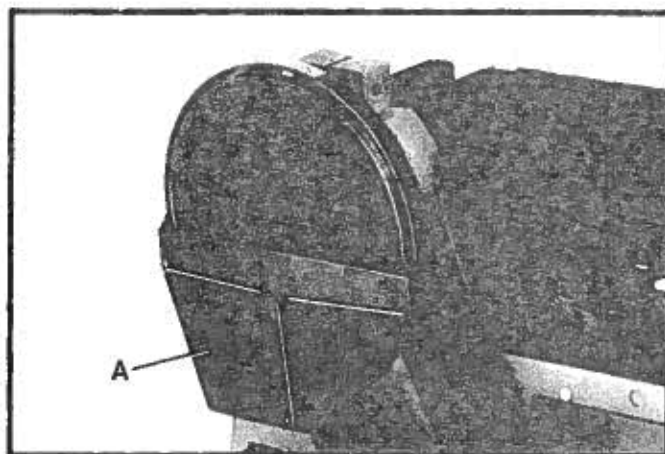

Fig. 10
1. Assemble the lower cover (A) Fig. 10, to the belt and pulley guard, using the three 1/2" (12mm) long pan head screws (B).